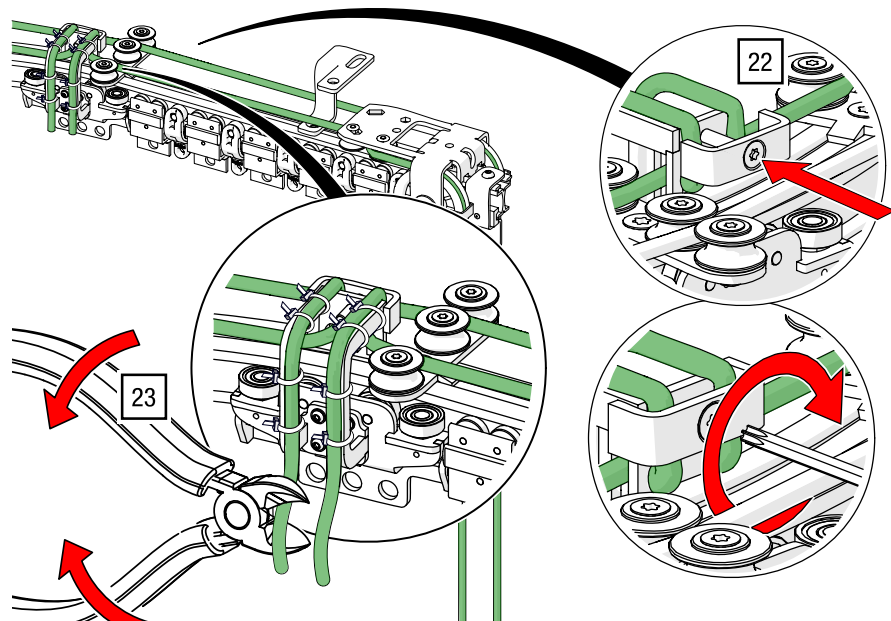

Fig. 102: Top cord operation – Fasten, cut, and burn the ends of the cord
22. Clamp both cord ends in the second master runner using a TORX®-key T30 and 11 Nm and (see Fig. 102).
23. Cut off the ends and burn them, so that the rope does not unravel (see Fig. 102).
16. Clamp both cord ends in the second master runner using a TORX®-key T30 and 11 Nm and tie them tightly at several points on the master runner using four tie wraps in the same way as for the top cord operation at Fig. 102 [► p. 80].
17. Cut off the ends with a wire cutter (tool) and trim them as described for the top cord operation at Fig. 102 [► p. 80].